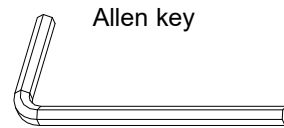
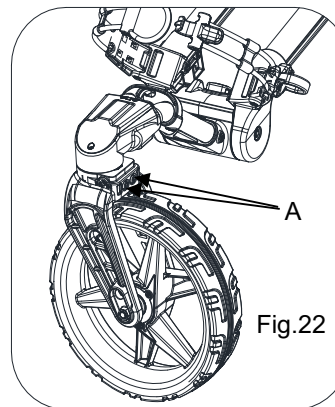
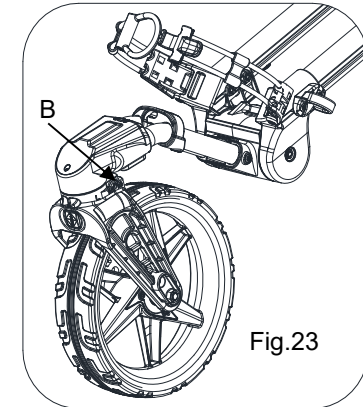

Fig.21
Fig.22
Fig.23
If the buggy veers to the RIGHT: use the Allen key (as shown in Fig. 21) to loosen the 2 screws (A) on the backside of the front wheel frame, as shown in Fig. 22. Then adjust the front wheel to center position by turning the screw (B) counterclockwise, as in Fig. 23. Tighten the 2 screws (A) after the front wheel alignment is done.
If the buggy veers to the LEFT: use the Allen key (as shown in Fig. 21) to loosen the 2 screws (A) on the backside of the front wheel frame, as shown in Fig. 22. Then adjust the front wheel to center position by turning the screw (B) clockwise, as in Fig. 23. Tighten the 2 screws (A) after the front wheel alignment is done.